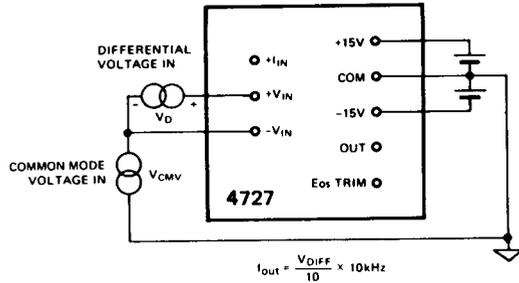

Figure 5G. Definition of Differential & Common Mode Voltage
- ① After trim @ 10 Hz and 10 kHz
- ② See Figure 5G for definition
- ③ Constant voltage at Zero trim pin
- ④ Temperature coefficients measured from -25°C to +85°C
- ⑤ Measurement, made for ±VCC = ±12 V to ±18 V
To use the 4727 voltage inputs differentially, several simple conventions (definitions) must be observed as illustrated in Figure 5G.